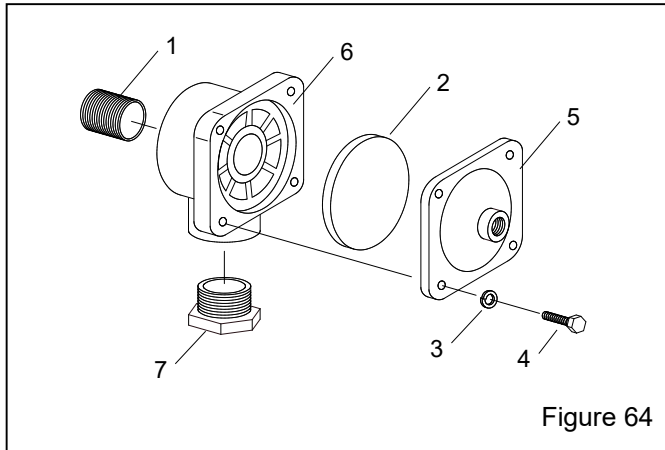

Figure 64
10.7 1" Diaphragm Outlet Valve – Figure 64